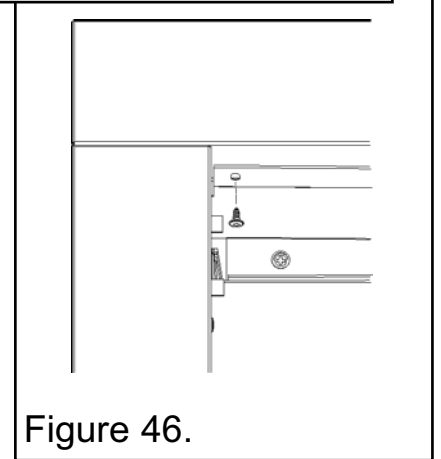

Figure 46.
- Unscrew and remove the two screws that secure the top of the fascia to the convection box (See figure 46).